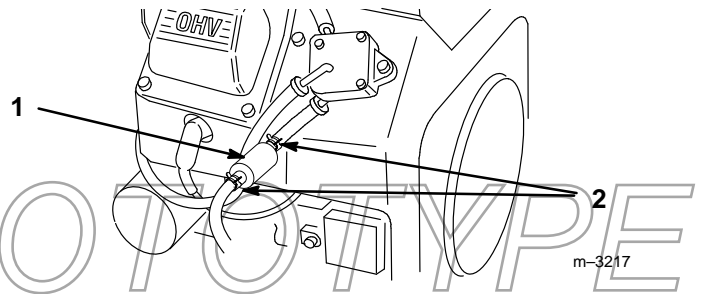

Figure 16
4. Squeeze the ends of the hose clamps together and slide them away from the filter (Fig. 16).